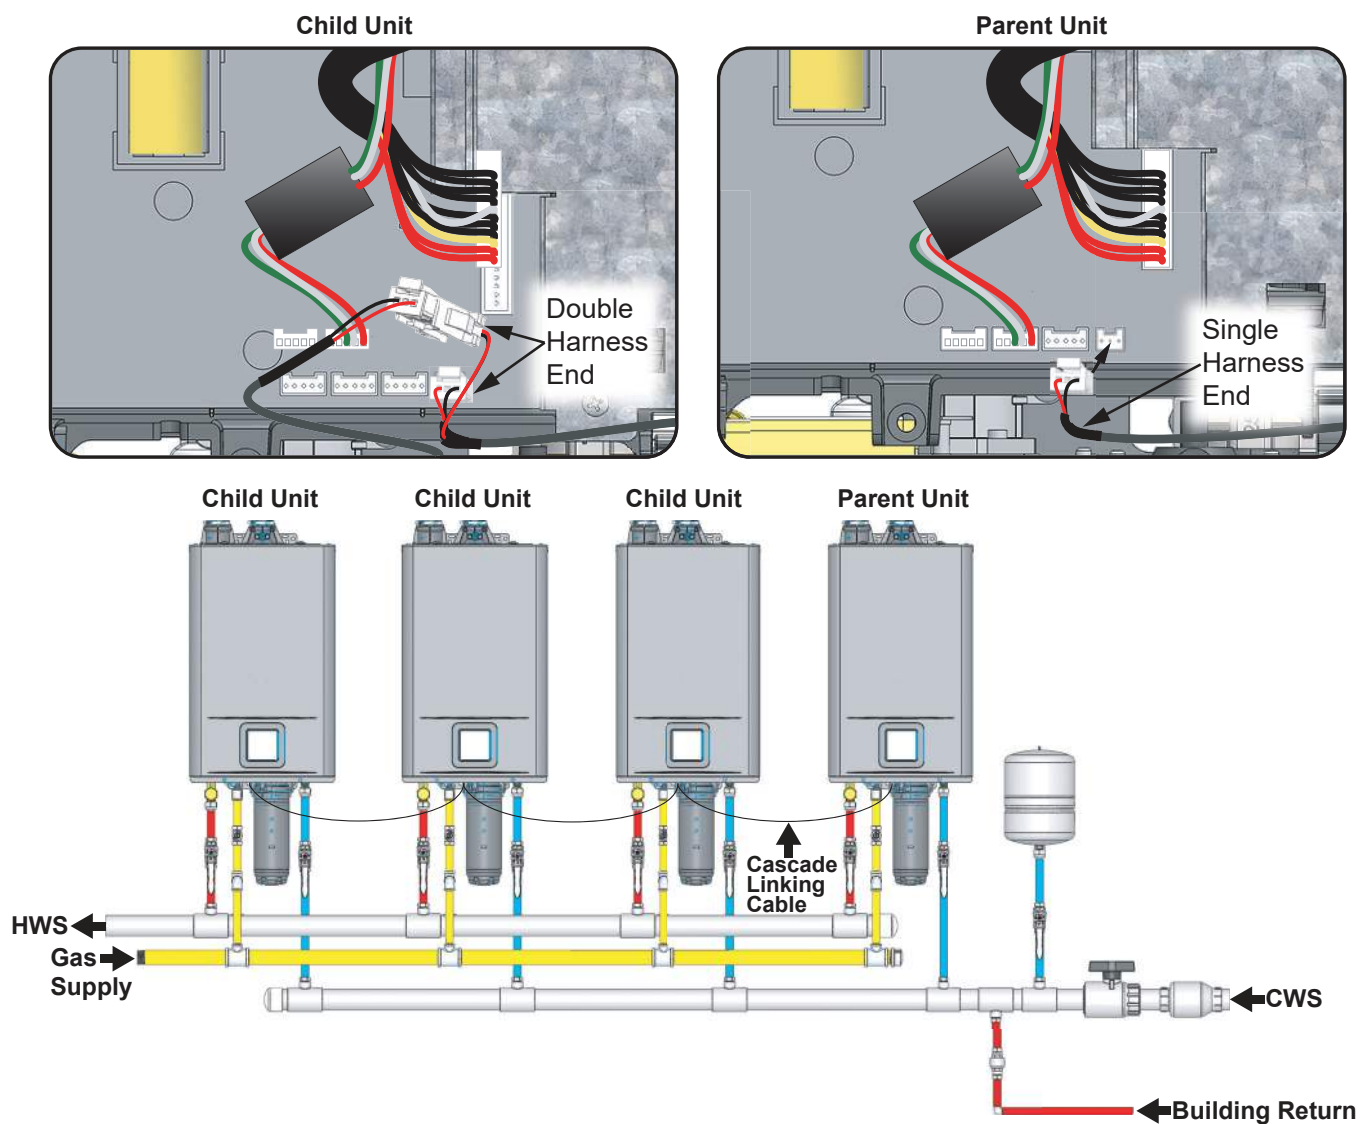

Figure 39 - Multi Unit Cascade Configuration
- 1** The Cascade system should be configured with the Parent water heater as the first water heater connected to the cold water supply and the Child units will follow sequentially. See Figure 39.
- 7** Use Figure 39 as a reference to locate the connection point for the Parent Cascade Unit. Use the single harness end of the Cascade Linking Cable to make the initial connection.
- 9** If more than one Child water heater is used then route the single harness end of the second Cascade Linking Cable through rubber grommet on the bottom of the first Child water heater and connect it to the open harness on the first Cascade Linking Cable as shown in Figure 39.